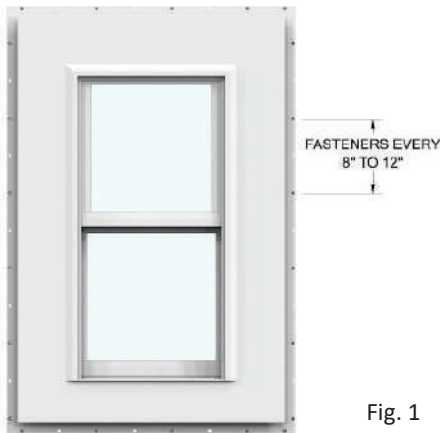

Fig. 1
3. Fasten the casing pieces to the wall around the window/door approximately every 8" to 12" along the nail hem using galvanized, stainless, or corrosion resistant nails or screws (See Fig. 1).